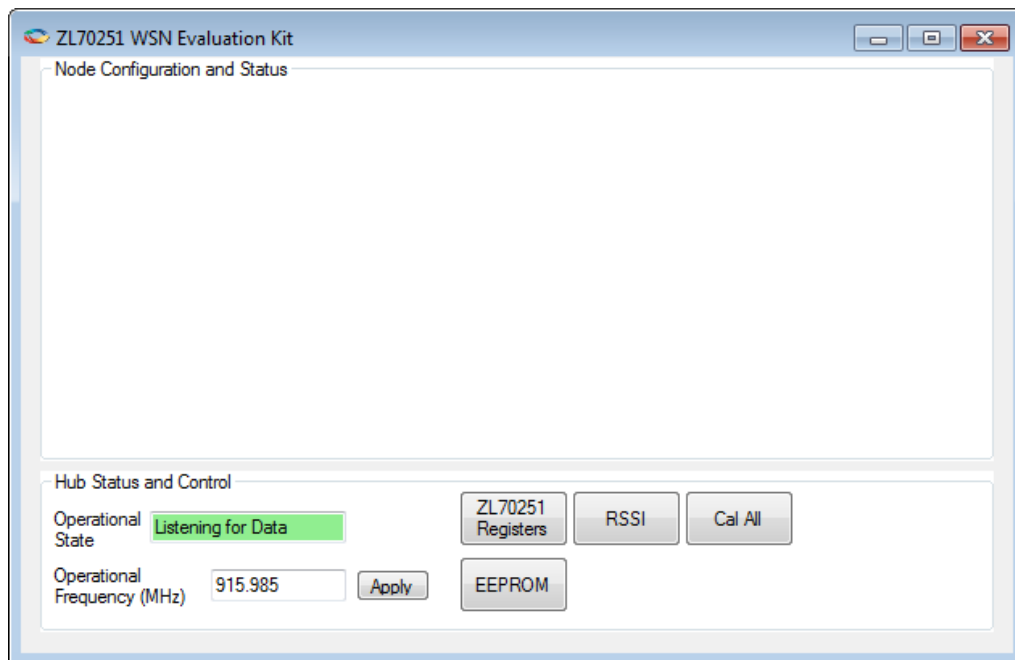

Figure 4 – ZL70251 WSN Evaluation Kit Main Form
- Launch the software by double-clicking the *ZL70251 WSN Evaluation Kit 1.0.X* icon on the desktop. As shown in Figure 4, the ZL70251 WSN Evaluation Kit main form appears, the software connects to the hub, and then the WSN main form changes the operational state to *Listening for Data*.